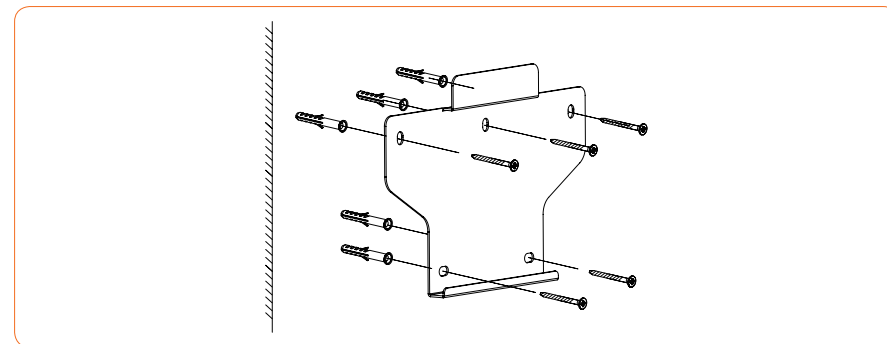

Figure 4-6 Fix the wall bracket
③ Insert the expansion tubes into the holes and tighten them, then fix the bracket onto the wall with expansion screws by using a cross screwdriver, as shown in Figure 4-6: